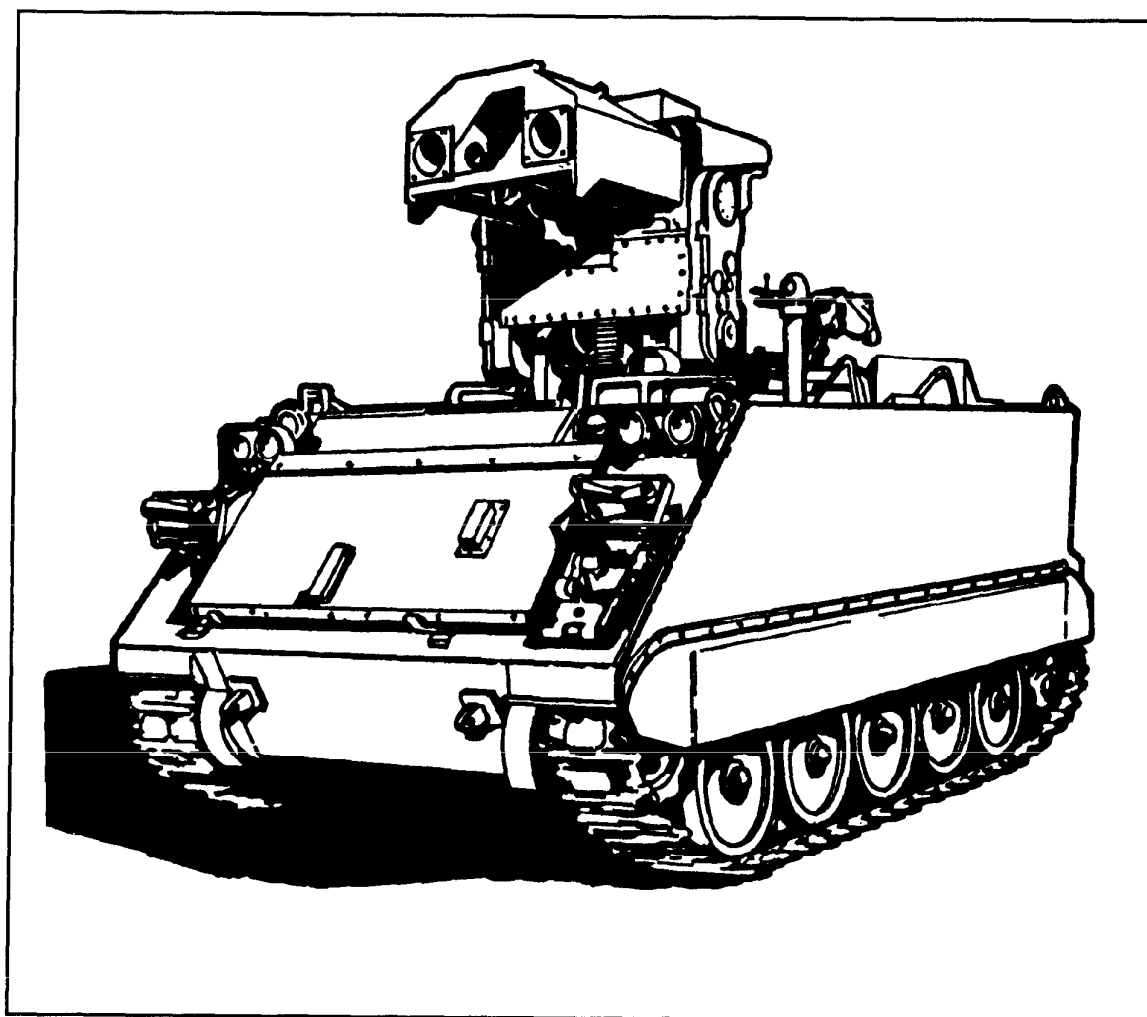

Figure 4-1. M901-series ITV.
*The M901-series improved TOW vehicle (ITV) is a one-vehicle weapon system (Figure 4-1). The M901 employs the M220A1 TOW and the M901A1 employs the M220A2 TOW 2. The ITV is manned by a four-man crew—the squad leader, the gunner, the loader, and the driver.*